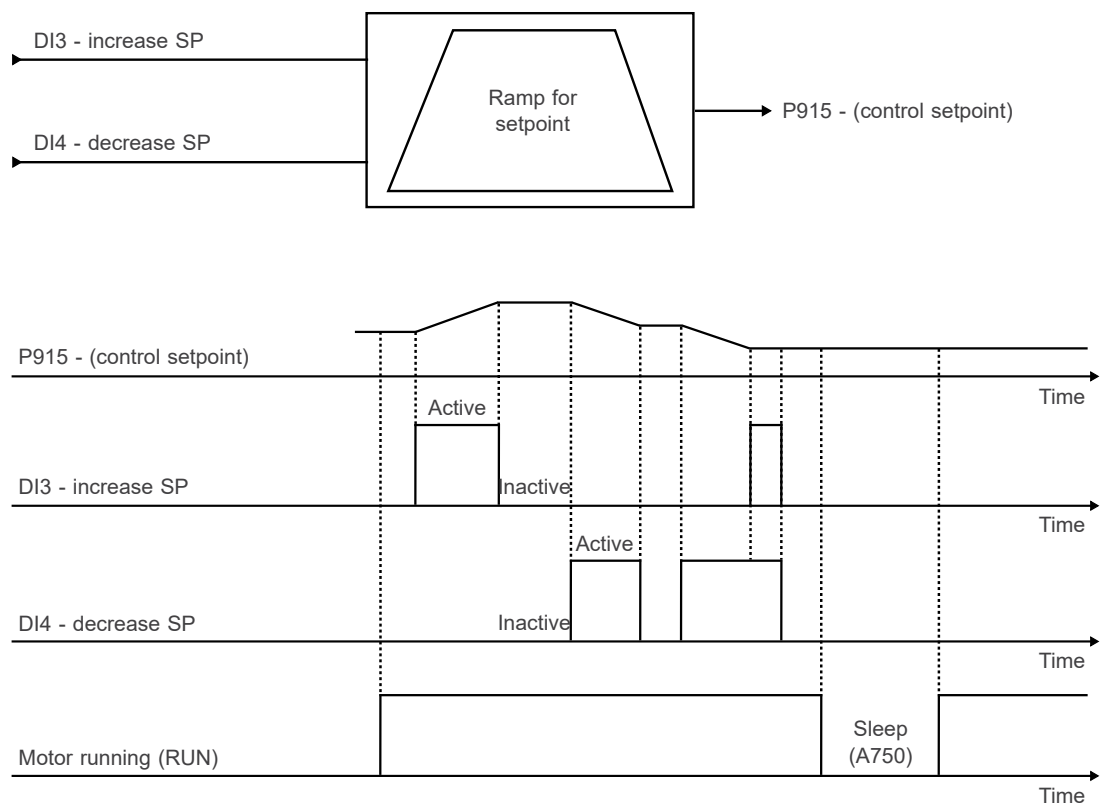

Figure 5.2: Operational graphic of the electronic potentiometer function (EP)
The Figure 5.2 at page 5-9 presents the operation of the electronic potentiometer (EP) function. As the digital input DI3 is activated, the value of the control setpoint (P915) is increased and as the digital input DI4 is activated, the control setpoint value (P915) is decreased. If the two digital inputs are activated at the same time, the value remains the same.